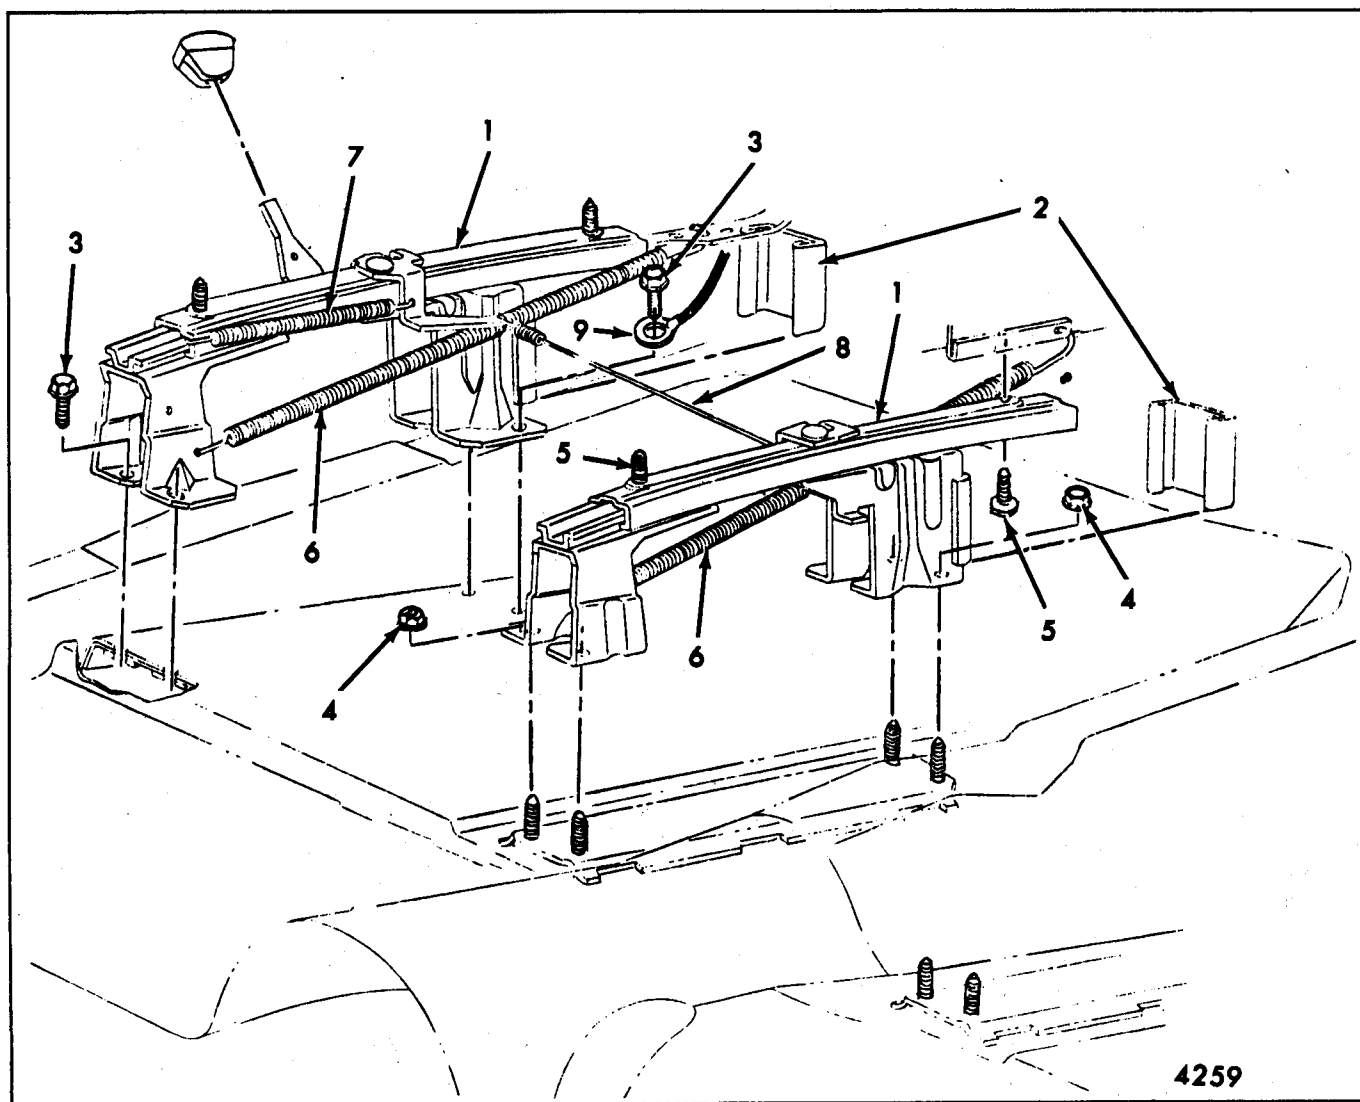

Fig. 14-5-Front Seat and Adjuster - Manually Operated 60/40 Seats
3. Detach power drive cables from gear nuts of adjuster to be removed (Figs. 14-5 through 14-14).
4. Remove adjuster-to-seat bottom frame front and rear attaching bolts and remove adjuster from seat assembly (Figs. 14-5 through 14-14).
5. To install seat adjuster assembly, reverse removal procedure. On seats with adjuster upper track covers, make sure track cover supports are installed between adjuster and seat frame. (Figs. 14-5 through 14-14). Check operation of seat adjusters and make sure adjusters are "in phase" before installing assembly into body. (See Step 6 under "Front Seat Assembly - Removal and Installation").